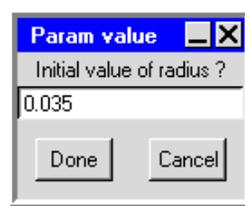

Figure 24.2.1: The Param value Panel
If the parameter you define is related to the geometry of an object or the properties of a material, Airpak will ask you to enter a value for the parameter when you click **Update** or **Done** in the **Object** panel or the **Materials** panel. For example, if you specify a parameter for the radius of the fan ($\$radius$), Airpak will ask you to provide an initial value for the radius in the **Param value** panel (Figure 24.2.1).
- Specify the variable name that will be set to be equal to the object's name. In the **Active parameter** panel, select **Option is ON if variable is equal to this object's name**, and enter the **Variable name**. Airpak will ask you to provide an initial value for the variable in the **Param value** panel (Figure 24.2.1). The name of the object or some other name must be entered, enclosed within quotation marks.
the Expression and the Value. Also, provide an initial value for the variable in the Param value panel (Figure 24.2.1).